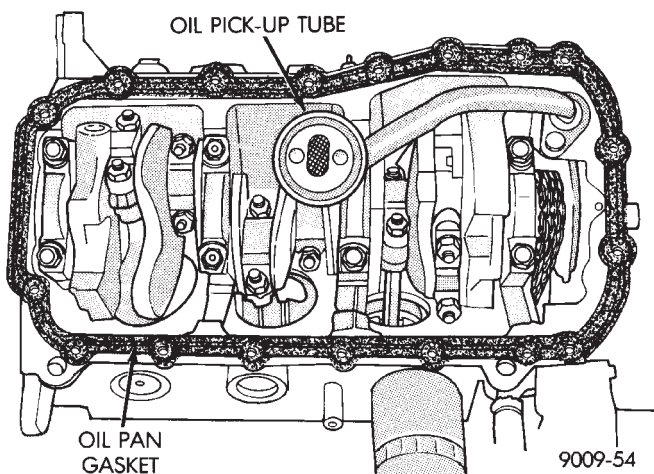

Fig. 4 Oil Pan Gasket Installation
- (3) Use a new pan gasket (Fig. 4).
- (4) Install pan and tighten screws to 23 N•m (200 in. lb.).